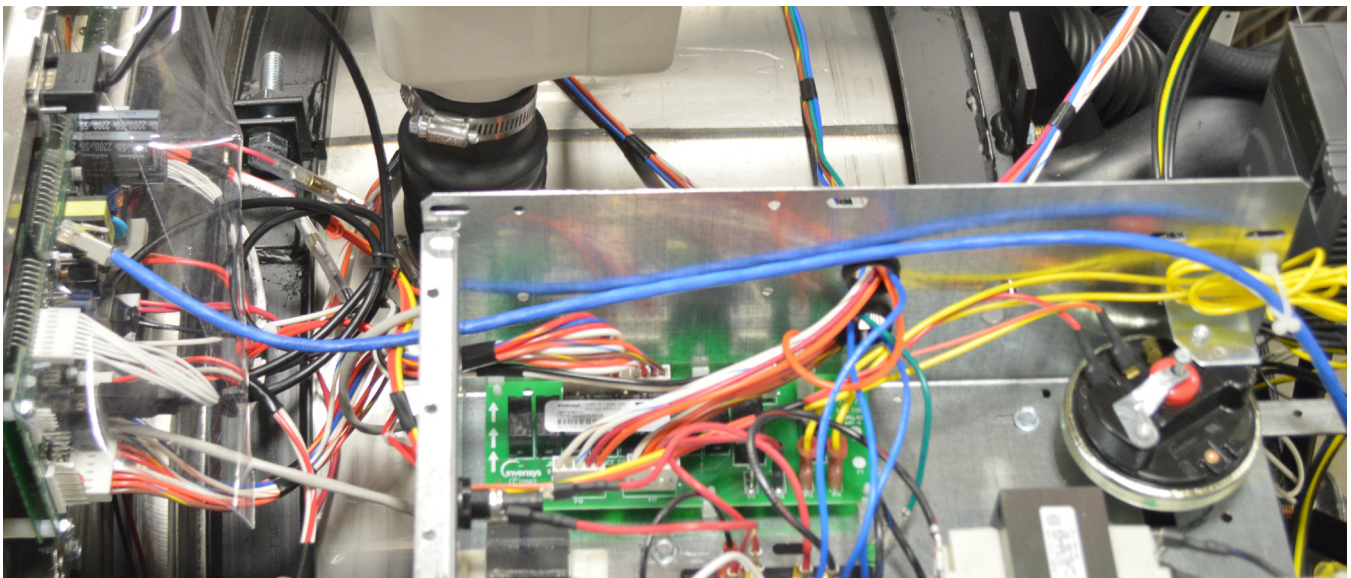

Figure 4
16. Route the cable from the Ethernet switch to the front of the machine along the inside of the control trough where it can be connected to the control panel (Figure 4).